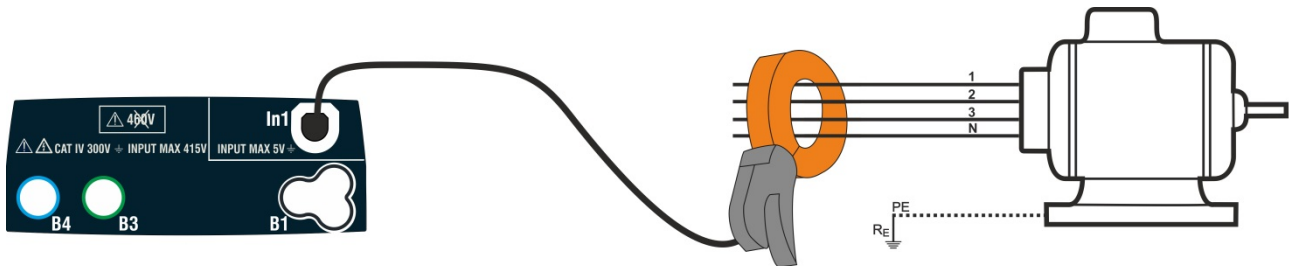
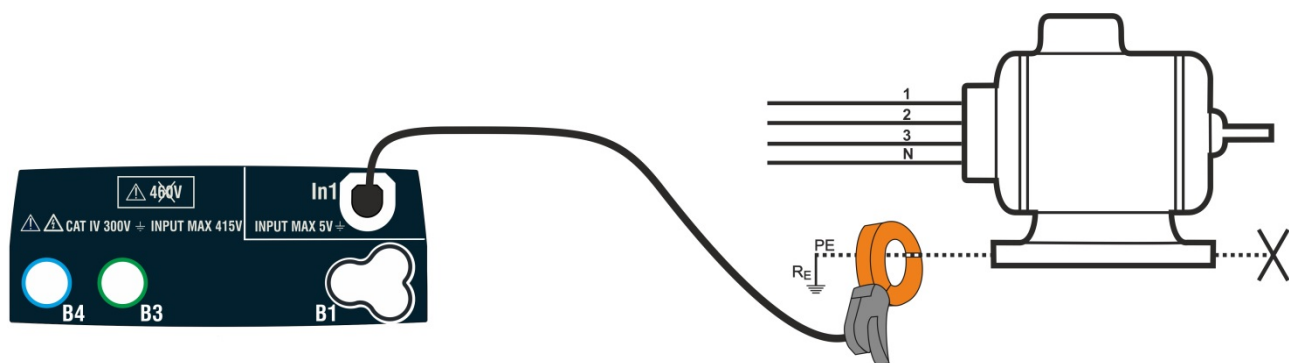

Fig. 33: Indirect measurement of leakage current in three-phase systems
Fig. 34: Direct measurement of leakage current in three-phase systems
- For indirect measurements of leakage current, connect the external clamp according to Fig. 33. For direct measurements of leakage current, connect the external clamp according to Fig. 34 and disconnect possible additional earth connections which could influence the test results.